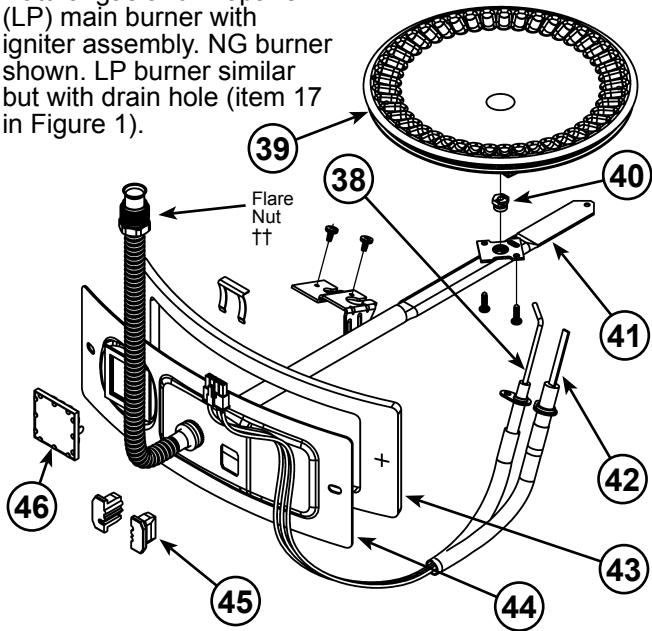

Figure 50
- 17 Manifold Door Assembly (behind outer door) (see Figure 3) (see also **Figure 50**)
- 38 Flame Sensor Rod (see Figure 3) (see also **Figure 50**)
- 39 Sheet Metal Burner (see Figure 3) (see also **Figure 50**)
- 40 Gas Orifice (see Figure 3) (see also **Figure 50**)
- 41 Gas Manifold (see Figure 3) (see also **Figure 50**)
- 42 Hot-Surface Igniter (see Figure 3) (see also **Figure 50**)
- 43 Manifold Door Gasket (see Figure 3) (see also **Figure 50**)
- 44 Manifold Door (see Figure 3) (see also **Figure 50**)
- 45 Two Piece Grommet With Clip (see Figure 3) (see also **Figure 50**)
- 46 Viewport (see Figure 3) (see also **Figure 50**)